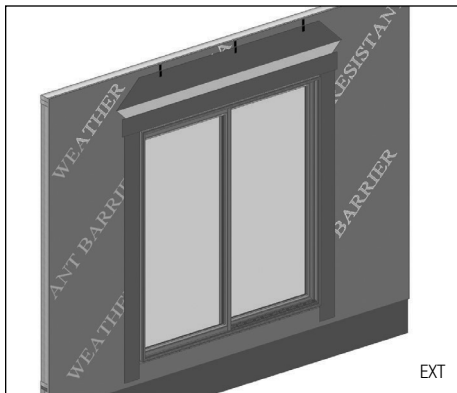

FIG. 16
- C) Cut and apply head flashing. The head flashing should run slightly past the edge of the side flashing. (Fig. 16)